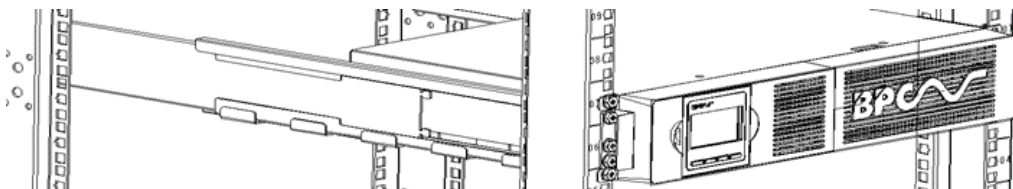

Figure3.3 Securing the Front of the Cabinet
- g. Secure the front of the UPS to the rack using one M5x12 pan-head screws and one M5 cage nuts on each side (see Figure 3.3).